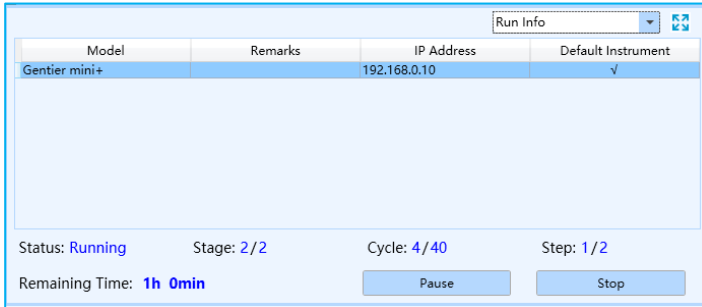

Figure E-8.4 Run Monitoring Interface - Run Info Function Module
4. **Run Info:** It displays the current instrument information and the real-time running status, such as the *Stage*, *Step*, *Cycle* and *Remaining Time* of the current experiment, as shown in figure E-8.4.